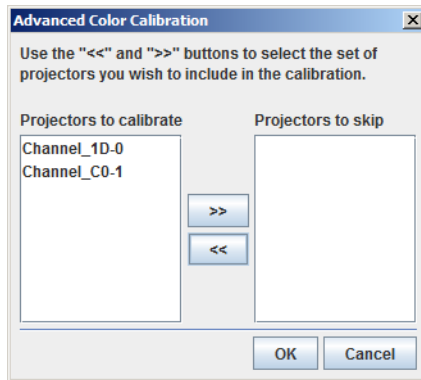

Figure 4-32 Advanced Color Calibration - Projector Selection
5. To select the projector(s) you are going to use in the calibration, click **Projector selection**. The projector selection dialog box appears (**Figure 4-32**).